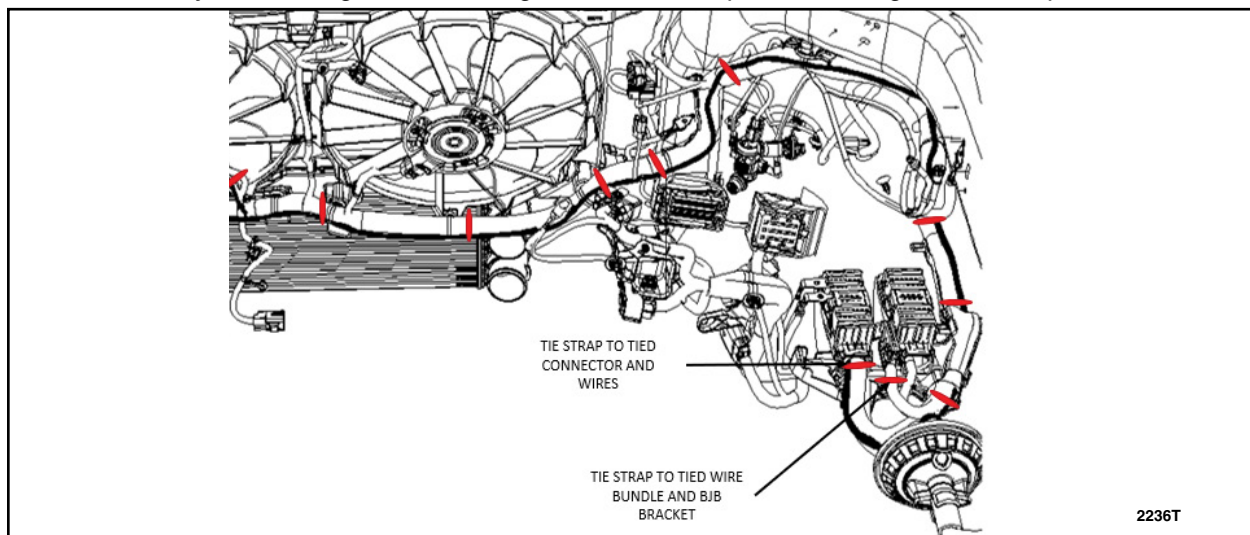

FIGURE 26
31. Continue to attach the aux box harness to the 14290 harness using zip ties as identified with red highlights. Working your way up to the BJB area. See Figure 26.
NOTE: Carefully route wiring identical to Figure 26 as it is imperative during the next steps.